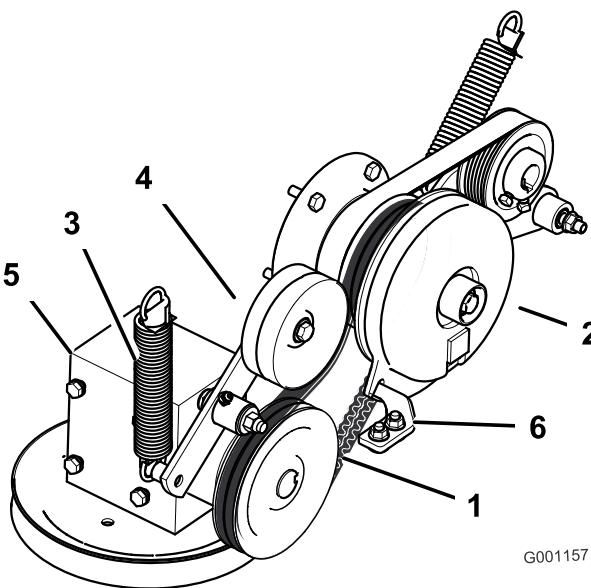

Figure 2
5. Remove the spring from the idler arm (Figure 2).
6. Remove the clutch stop bracket from the machine. The holes for the clutch stop will be used for the new clutch (Figure 2).
7. Remove the PTO drive belt from the clutch (Figure 2).
5. Install the PTO drive belt onto the clutch (Figure 2). Ensure the belt is routed correctly.